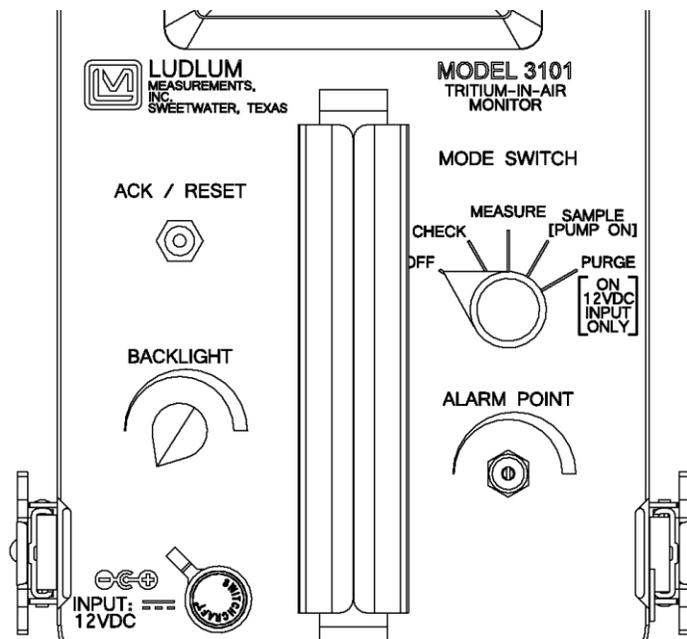

Figure 2-1. Identification of Controls.
The Model 3101 consists of the following sections: a tritium ion chamber, a gamma compensation chamber, an electrometer amplifier, range-dependent amplifier, microprocessor with A/D inputs, alarm, display, pump drive and pump, power supply, and battery charging circuits. The circuitry incorporates diagnostics enabling determination of the ability of the equipment to perform its intended function. Any failures are indicated by a latching steady audible alarm accompanied by a unique failure text on the display. The operator has access to the controls and indicators and is required to be familiar with their use and presentations during operation of the Model 3101 (See Figure 2-1).
2.2.1 Description of Controls. The controls are shown in Figure 2-1 and are described following the figure.